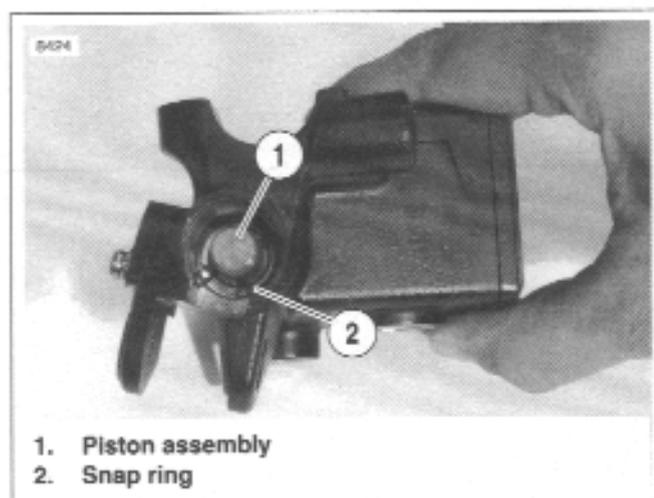

Figure 2-33. Piston Assembly in Master Cylinder
4. See Figure 2-33. Depress piston assembly (1) and remove internal snap ring (2) and discard.
5. See Figure 2-33. Secure piston assembly (1) with a new snap ring (2).